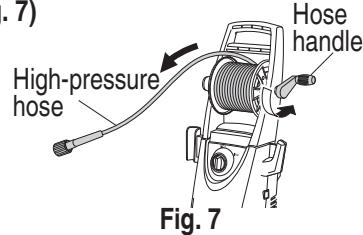

Fig. 7
2. Pull the high-pressure hose from the hose reel (Fig. 7)